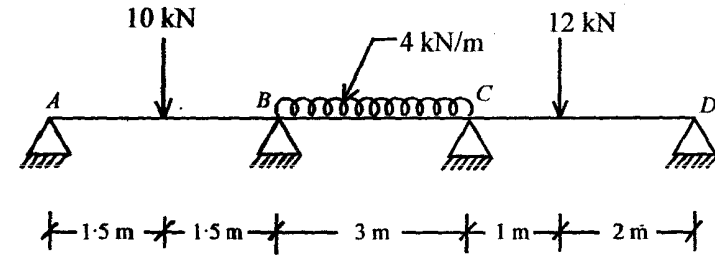

Fig. 6
4. A horizontal beam ABCD is loaded as shown in Fig. 6. The beam ABCD is supported on hinged supports and the beam is continuous over three equal spans each of 3 m. All the supports are initially at the same level. Plot the bending moment diagram of the beam, if support A settles by 15 mm, support B settles by 40 mm and support C settles by 30 mm. Given : $E = 2 \times 10^5 \text{ N/mm}^2$, $I = 2.4 \times 10^6 \text{ mm}^4$. 20